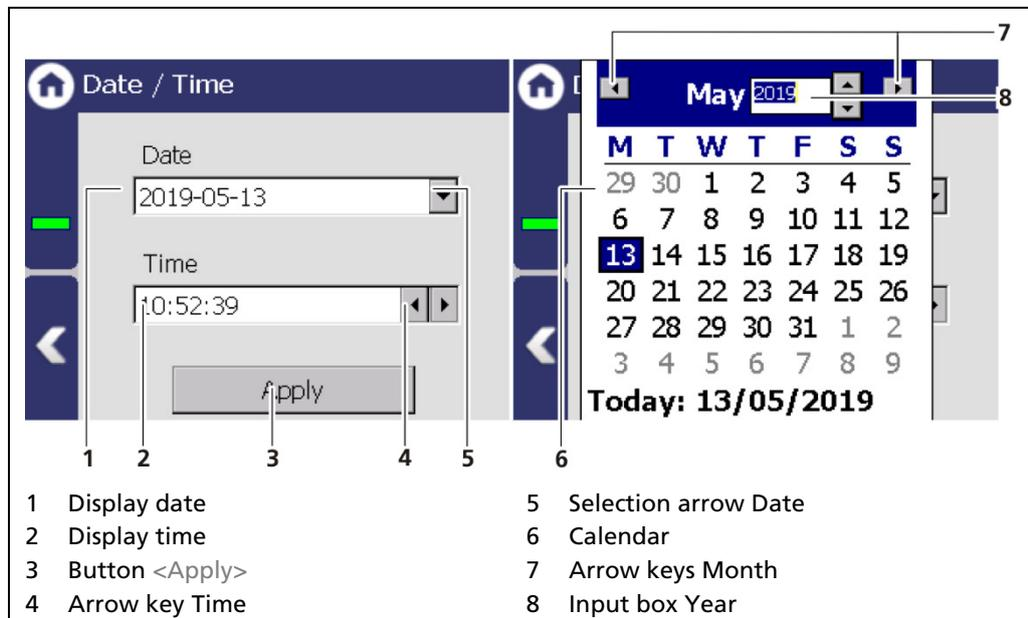

Fig. 40 Date / Time, calendar
1. Click on the arrow key (Fig. 40, item 5) in order to set the date.
- ▶ The calendar is opened (Fig. 40, item 6).
2. Click on the year number (Fig. 40, item 8) in order to enter the year.
3. Set the month (Fig. 40, item 7) by clicking on the arrow keys.
5. Change the time by clicking on the arrow keys (Fig. 40, item 4).
6. Click on <Apply> (Fig. 40, item 3), to accept the date and time settings.